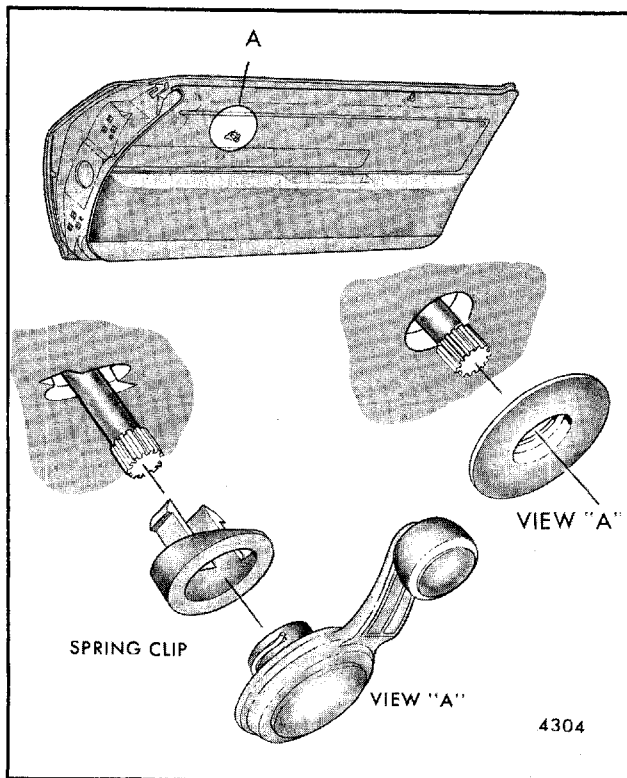
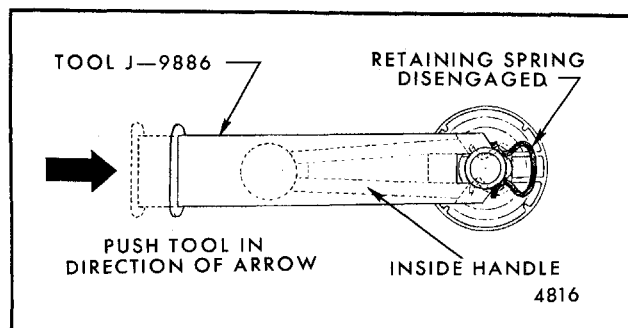

Fig. 5-16-Typical Window Regulator Handle Installation
Fig. 5-22-Clip Retained Door Inside Handle Removal
1. Clips hidden by window regulator handles (Fig. 5-16) can be disengaged by depressing door trim assembly sufficiently to permit inserting tool J-9886 or equivalent between handle and trim panel or plastic bearing plate (Fig. 5-22). Then, with tool in same plane as inside handle, push tool as indicated to disengage clip. Pull handle inboard to remove from spindle.